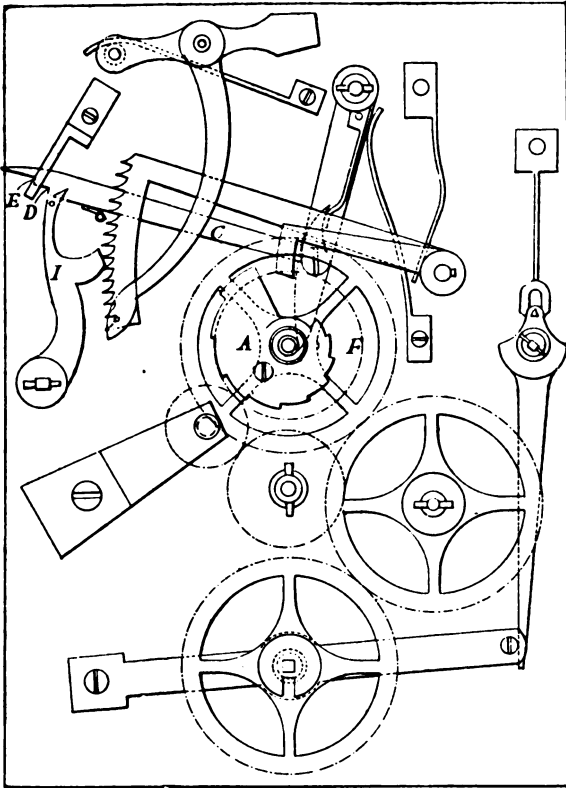

Fig. 4.
**Carriage Clock Striking Work.**—Fig. 4 is a very good example, by Messrs. Richard & Co., of hour and half-hour striking work for small clocks. Though the principle is the same as in Figs. 1 and 3, the parts are differently arranged. The snail A is mounted on the hour wheel, and the arm C, which takes the place of the lifting piece, is pivoted to a lever which is impelled to the position shown by a weak spring. In the cannon pinion F are two pins, one placed nearer the centre than the other. At the half-hour the pin nearest the centre has pushed back the lever till the first notch D in the arm C has fallen over the pin in the rack hook I and the pin then releases the end of the lever, and the rack hook is pushed far enough to open the striking, though not far enough to allow the rack to fall. At the hour the notch E engages the pin, and pushes the hook clear of the rack. The striking is kept locked by an upright arm on the arbor of I, catching a pin in the last wheel of the striking train. It will be observed that there is no tail to the gathering pallet, consequently the striking is let off at once, and there is no preliminary warning. The horizontal lever at the top of the frame and the curved arm coming down in front of the rack are for pushing out the hook when it is desired to repeat the striking of the previous hour. The small wheel below the hour wheel is connected with the cannon pinion through the intermediate wheel on the left, and is for setting hands at the back.
**Alarum.**—The wheel at the bottom of the plate in Fig. 4 is connected with the hour wheel by means of the intermediate wheel on the right, and is for letting off the alarum. The notched collar is fixed to the arbor, which may be turned round till the notch corresponds to any desired hour. The wheel rides loose on the arbor, and is pressed forward by the spring at the back. There is a projection on the boss of the wheel facing the collar, and when this projection comes opposite to the notch, it enters, and the spring is thereby allowed to come forward sufficiently to disengage itself from the vertical lever on the extreme right of the figure. To the axis of this lever on the other side of the plate are fixed a pair of pallets, and also a hammer to strike on the bell. On the arbor of the escape wheel, which engages with the pallets, is a small mainspring barrel, so that if the mainspring is released the hammer rapidly vibrates and strikes the bell. The short end of the lever carries a banking pin which works between a spring fork as shown. One side of the notch in the collar is sloped off at the back, so that as the wheel continues its rotation the projection is pushed out of the notch and the spring again locks the alarm lever.